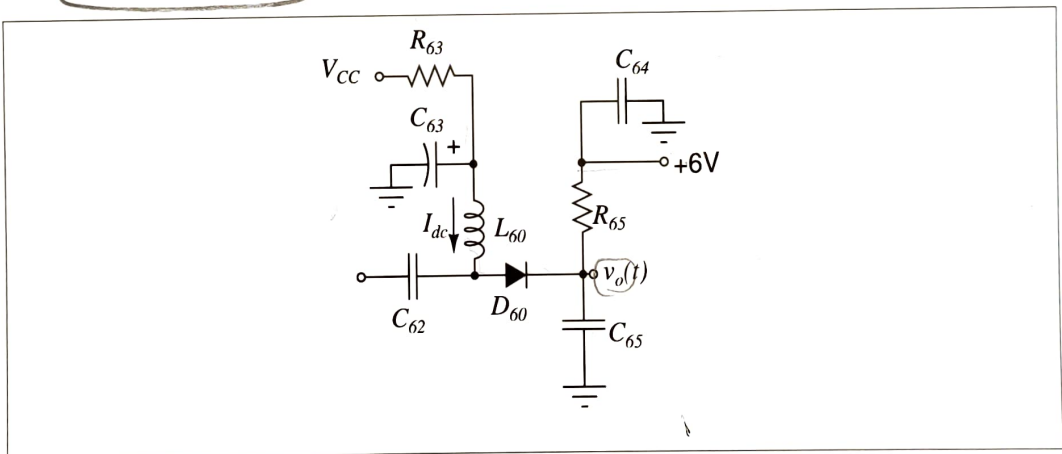

Figure 1: TRC-11 envelope detector circuit.
1. The envelope detector circuit of TRC-11 is given in Fig. 1. It serves to recover the AM modulation signal present on the RF signal. It does so by rectifying the positive side of the AM modulated signal. A low-pass circuit composed of C65 and R65 gets rid of the RF signal frequency. ✓
1. A PIN diode acts like an RF resistance whose value is determined by the DC current flowing through it. It is inserted between the first and second IF amplifiers when the jumper JP70 is shorted. If the DC current through it increases, its resistance reduces and hence attenuates the signal going to the second IF amplifier as shown in Fig. 1. Refer to the datasheet of the PIN diode on page 375. Find the reverse breakdown voltage, V_R , and the series RF resistance, R_S , and the forward voltage, V_F of the PIN diode when 1 mA DC flows through it.